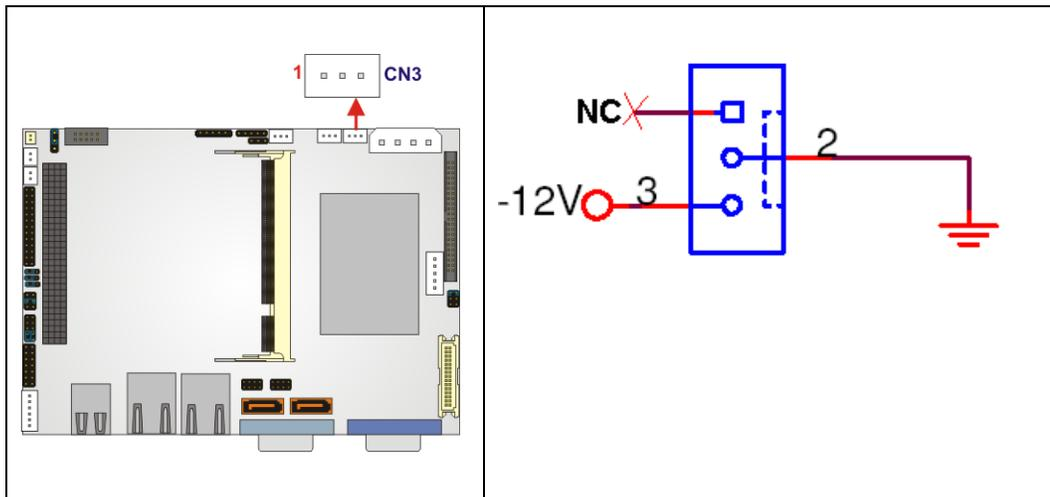

Figure 3-4:–12V Power Connector Location
- CN Location:** See **Figure 3-4**